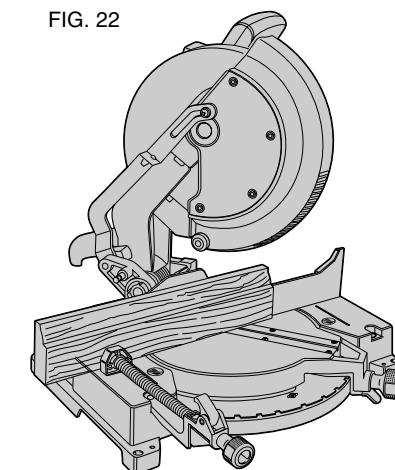

FIG. 22
- Position molding as shown in Figure 22
When cutting a board between 3.9" (3-7/8") and 5.5" (5-1/2") in width the roller on the tip of the guard will hang up on the workpiece. If this occurs, simply place your right thumb on the upper side of the guard and roll the guard up just enough to clear the workpiece, as shown in Figure 25. Once you have cleared the workpiece, you can release the guard and it will continue to open as the cut progresses. When mitering to the right side of a base molding wider than 3.9" (3-7/8") standing vertically against the fence as in Figure 22, the saw can only cut through the board up to 1 inch from the end of the board. Trying to cut more than an inch will cause the saw's gear case to interfere with the workpiece. If you want to cut base molding between 3-7/8" and 5-1/2" wide vertically follow the directions on this page.